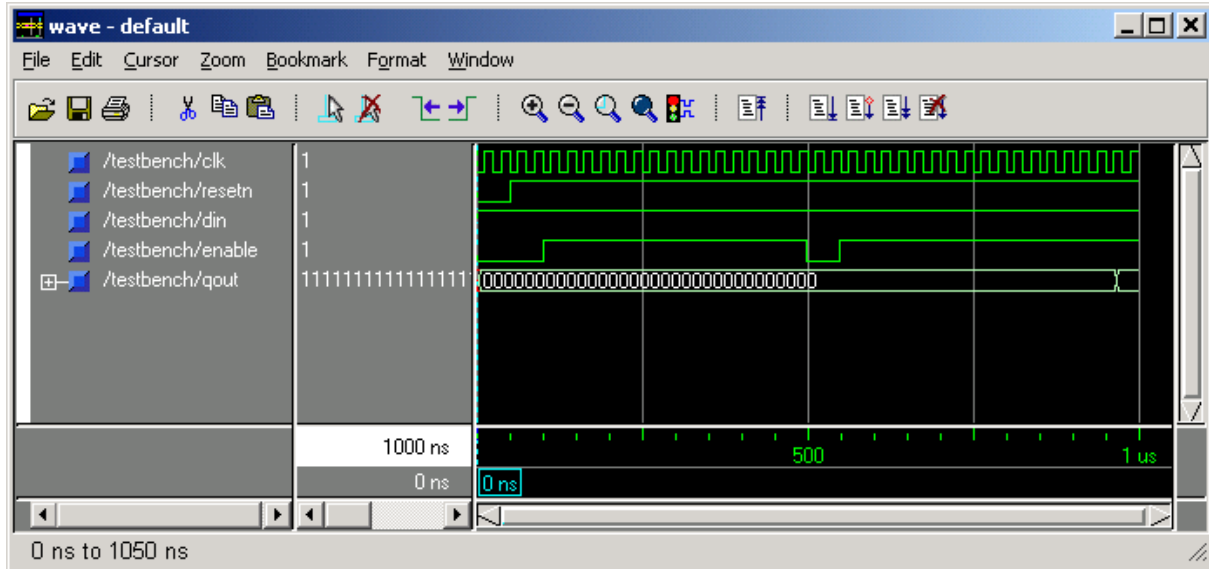

Figure 34 - Post-Layout simulation for top
3. When the compilation completes, the simulator will run for 1 us and a Wave window will open to display the simulation results (Figure 34).